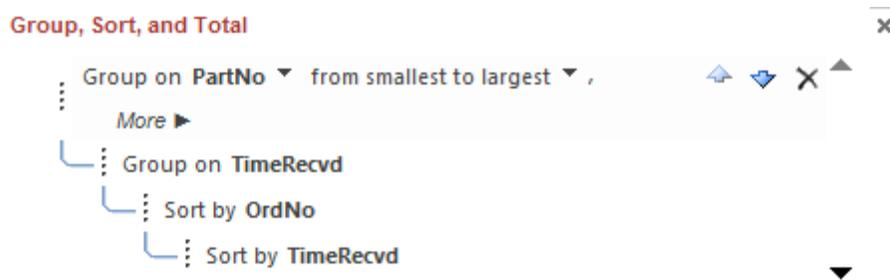

Figure 6: Sorting and Grouping Window
If you need to change the grouping and the sorting fields, you do not have to start over with the Report Wizard. To view the grouping and the sorting fields, click **Design → Group & Sort** in the Grouping & Totals group. In the Sorting and Grouping window (Figure 6), note the grouping fields (*PartNo* and *TimeRecvd*) and the sorting field (*OrdNo*). Even though a field may not be a “grouped” field, you can still sort on it. You can delete the sorting on *TimeRecvd* by clicking the delete button (X) because it has no effect with grouping on *TimeRecvd*.